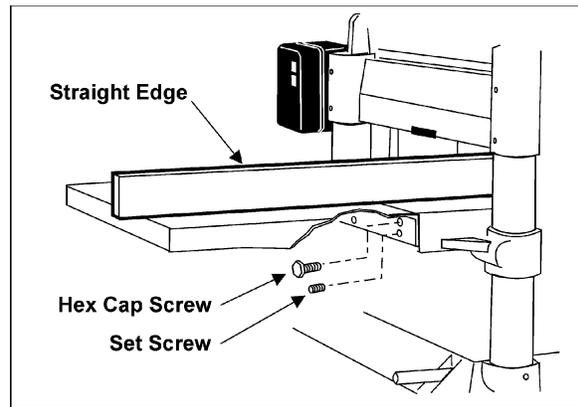

Figure 9
1. Mount a cast iron table to the edge of the main table with three M8 x 25 hex cap screws (Figure 9) using a 13mm wrench. Do not fully tighten yet.